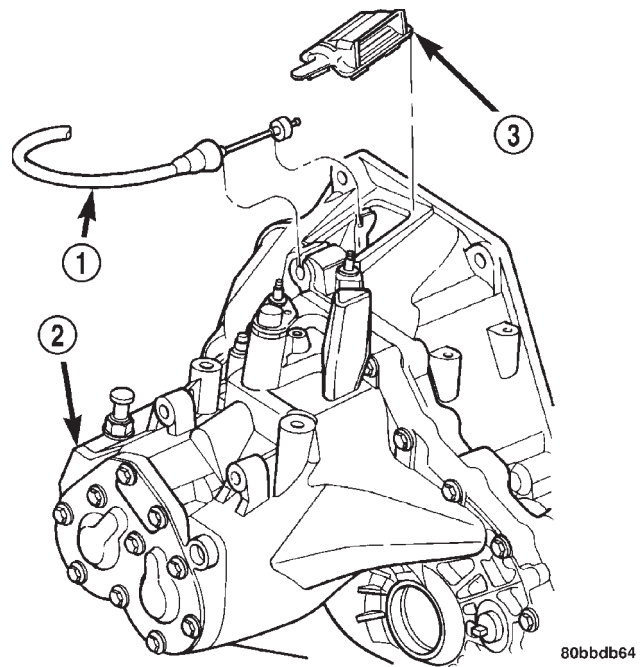

Fig. 7 Clutch Cable at Transaxle
- (1) Disconnect both battery cables.
- (2) Remove battery clamp and remove battery from vehicle.
- (3) Remove battery tray from mount bracket.
- (4) Remove bellhousing cap (Fig. 7).
- (5) Disconnect clutch cable from transaxle housing and clutch release lever as shown in (Fig. 7).
(3) Route cable to the transaxle and connect cable end to the clutch release lever and transaxle housing (Fig. 7).
(4) Install bellhousing cap (Fig. 7).
(5) Install and fasten battery tray.
(6) Install battery and hold-down clamp.
(7) Connect both battery cables.
(8) Verify that the clutch cable is working properly.